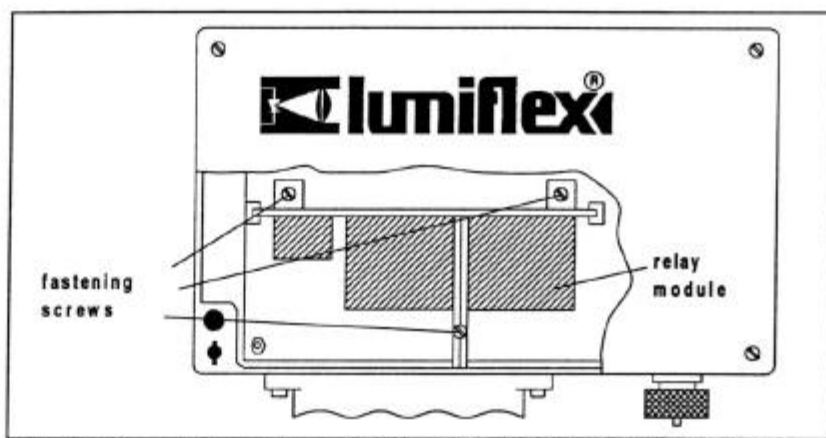

Figure 13-2 To remove the relay module, unscrew the three fastening screws.
2. Unscrew the three fastening screws of the relay module (Figure 13-2).